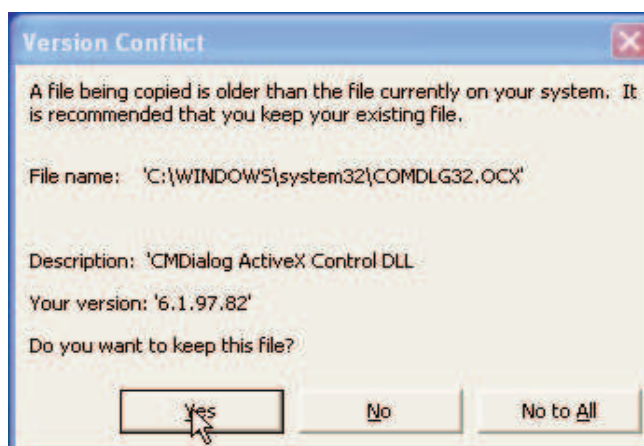

Figure 10. File Version Conflict Dialog Window
- Step 6. If a file being copied is an older version than the existing file on your system, you can retain your existing file by clicking Yes as shown in Figure 10.